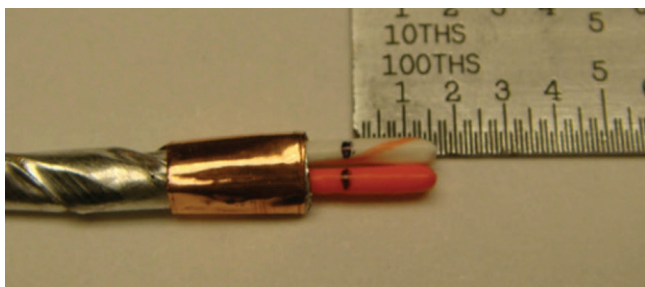

Figure 15: Marking each pair
9. Mark each pair 0.15 inch from the end of the cable (Figure 15).